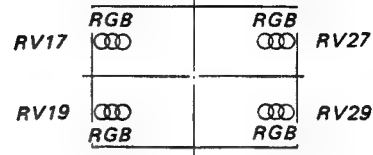

Fig. 1-18.
9. Adjust RV17, RV19 and RV27, RV29 on the DC board to coincide with the R, G and B dots as shown in Fig. 1-18.